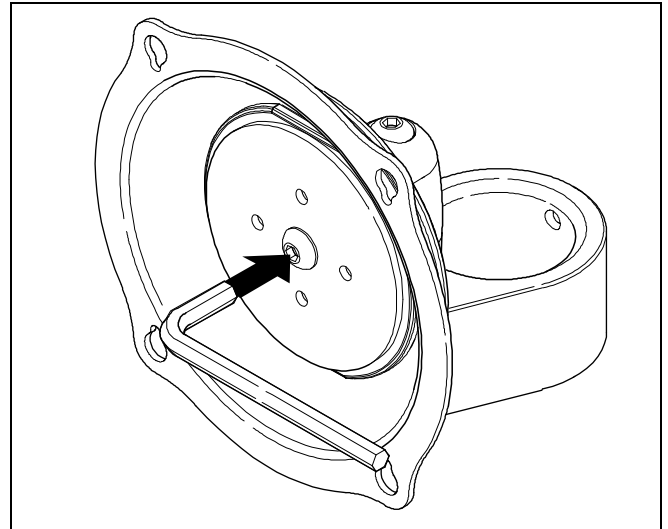

Figure 12
5. Using a hex head wrench turn the tension adjustment screw clockwise to increase tension, or counter-clockwise to decrease tension. (See Figure 12)